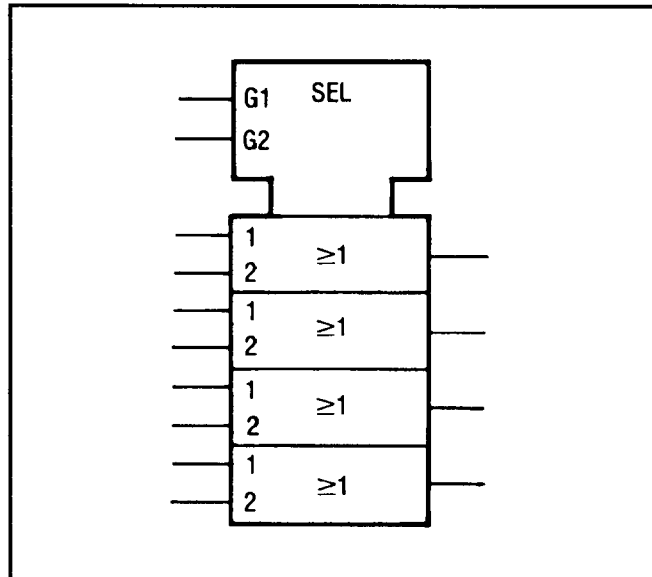

Figure 8-11. AND-OR Selector
**AND-OR Selector.** The selector control block simplifies the AND portion of a quad AND-OR select gate (see figure 8-11). When G1 is high, the data presented at the “1” inputs is gated through. When G2 is high, the data presented at the “2” inputs is gated through.